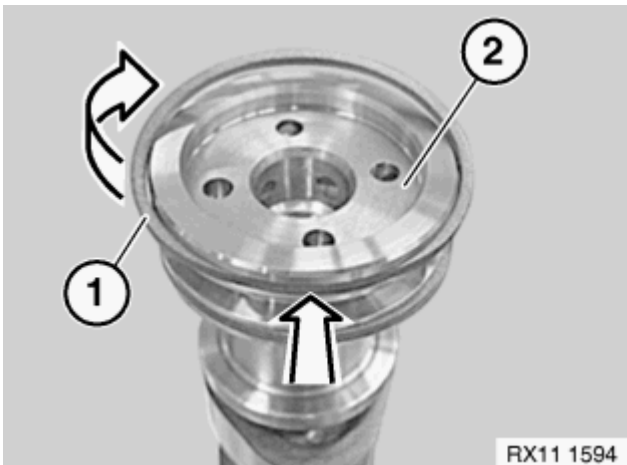

Fig. 417: Installing Plastic Plain Rectangular Compression Ring
Insert plastic rectangular compression ring (1) into groove of exhaust camshaft (2) (see arrow in **Fig. 417**). Lightly oil plastic rectangular compression ring (1) and rotate in direction of arrow until compression ring (1) is positioned on the exhaust camshaft.